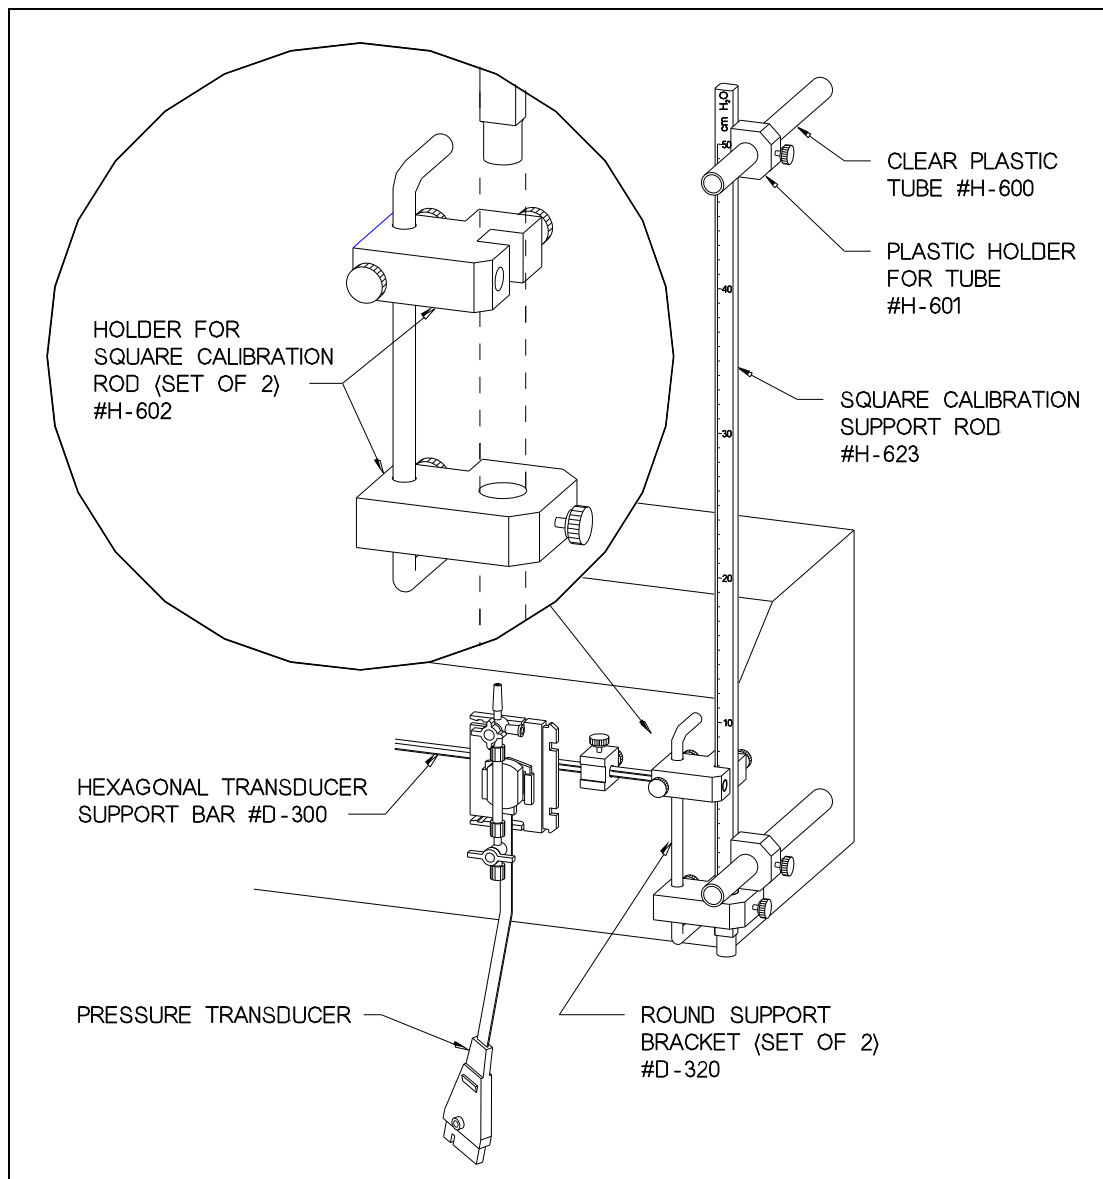

Figure 11. Hydrostatic Calibration System (0-50/68 cm H₂O)
- On the square calibration rod locate the two white plastic tube-holders. Slide a clear plastic 11-inch tube into the hole of each tube-holder as shown in Figure 11, below. Tighten the knurled screw to secure the clear plastic tube.
- Slide the square calibration rod into the two calibration rod holders on the right-hand round support bracket. The clear plastic tubes should be oriented perpendicular to the pump as shown in Figure 11. The lower clear plastic tube should be at the same level as the transducers for 0 cm H₂O or low calibration. The upper plastic tube is for 50 or 68 cm H₂O for high calibration (68 cm H₂O = 50 mm Hg).